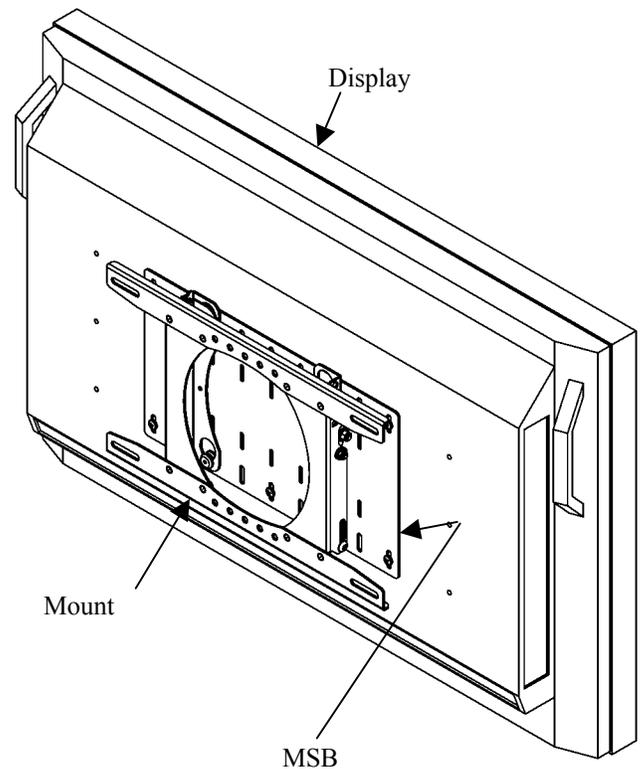

Figure 6. Mount Plasma Tilt Bracket to Wall
1. Place MSP-MT against wall and align upper mounting holes with upper pilot hole(s) in wall (see Figure 6).
NOTE: Once mounted on wall, MSP-MT location can be adjusted up to a maximum of one inch right or left of slot center, if using slotted mounting holes, or up to a maximum of three inches right or left if mounted using the single stud mounting holes (see Figure 6).
1. With the aid of another person, lift the display up to the mount (10) on the wall, aligning mounting buttons on the MSB with the teardrop slots on the mount, and lower the display firmly into place (see Figure 6).